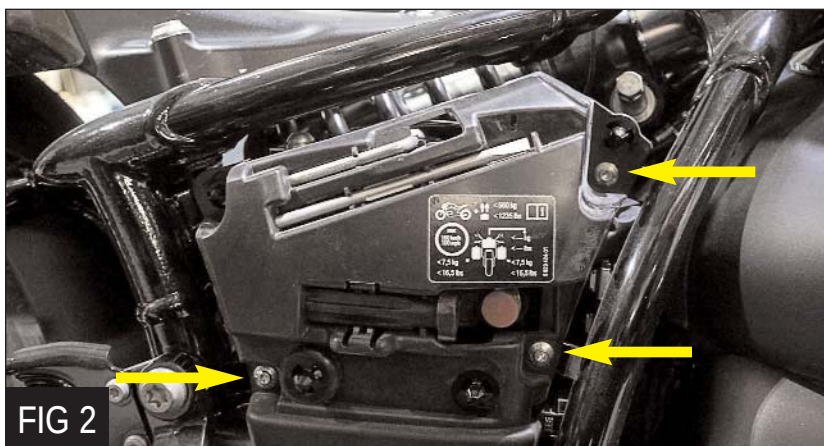

FIG 2
2. Remove the three bolts on the plastic tool kit cover, using a T-25 torx wrench (*Figure 2*).